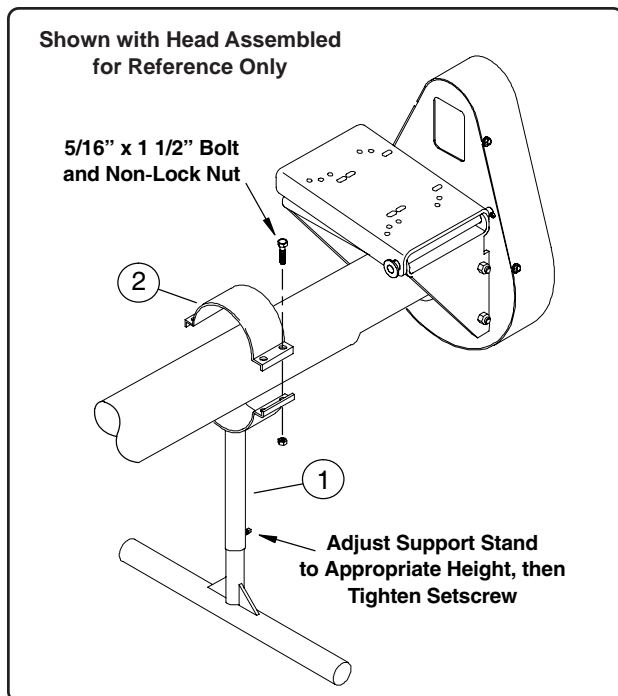

Fig. 3
1. Install the the support stand (Ref. 1) beneath the auger housing as shown in Fig. 3. With the auger housing resting on the support band, adjust the lower portion of the stand until it contacts the ground (it may be necessary to loosen the setscrew to adjust the stand to the appropriate height).